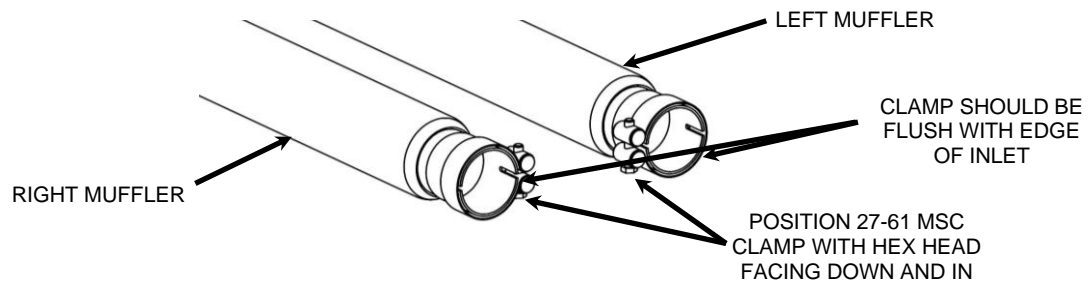

FIGURE 8
14. Slide the supplied clamps over the inlets of the right and left mufflers. Position them as shown in **FIGURE 8** with the hex head facing inward and towards the ground.
19. From the rear, rotate the mufflers as needed so they are level with the ground and parallel with each other. Then tighten the clamps and the mount bolts. (NOTE: The clamps should be flush with the end of the muffler inlets when tightened. See **FIGURE 8**. If the clamps are slid past the slots on the slip inlet the clamps will not tighten properly).